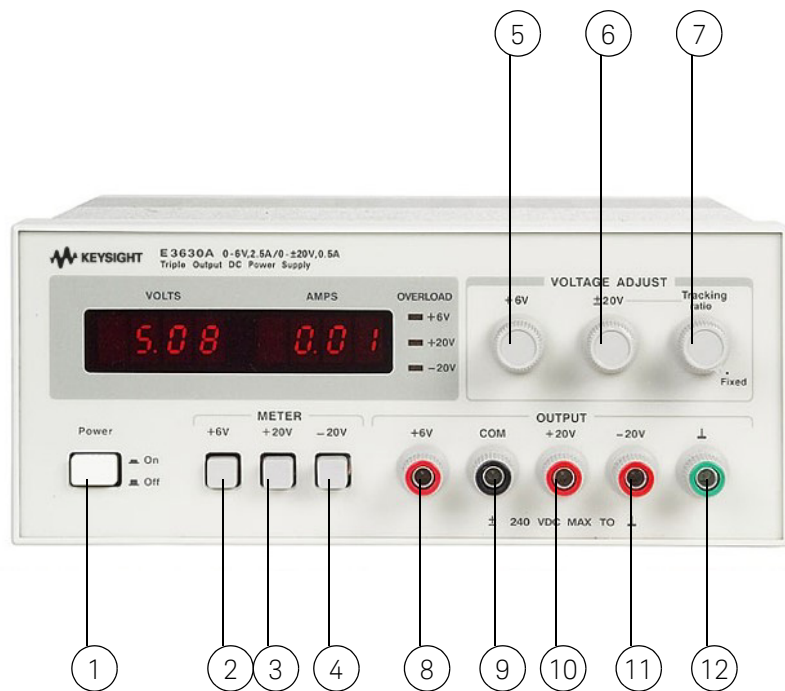

Figure 3-1 Front-panel controls and indicators
The following steps describe the use of the front panel controls and indicators illustrated in Figure 3-1 and serve as a brief check that the supply is operational. Follow this checkout procedure or the more detailed performance test of service information section when the instrument is received and before it is connected to any load equipment.
This power supply can be operated individually or in parallel or series with another supply (see **Parallel operation** and **Series operation** paragraphs). All output terminals are isolated from ground. The ± 20 V and +6 V outputs use a single common output terminal. This common (COM) terminal or any one of the other output terminals may be grounded to the chassis at the front panel ground terminal (⑫ in **Figure 3-1**), or all outputs may be left floating. Loads can be connected separately between each of the 0 to ± 20 V output terminals and the COM terminal, or between the -20 V and the $+20$ V terminals for a 0 to 40 V output. Each output voltage or current can be quickly selected for monitoring with the push-button meter switches.